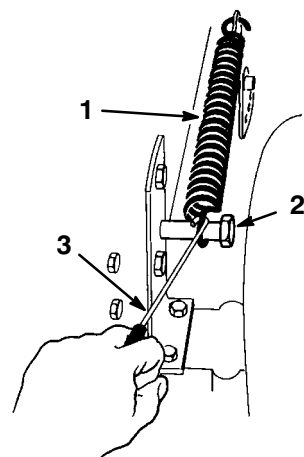

Figure 48
19. Hook the lift assist spring between the mower right side lift bracket and the retaining bolt (Fig. 48) Use the spring tool provided with the machine.